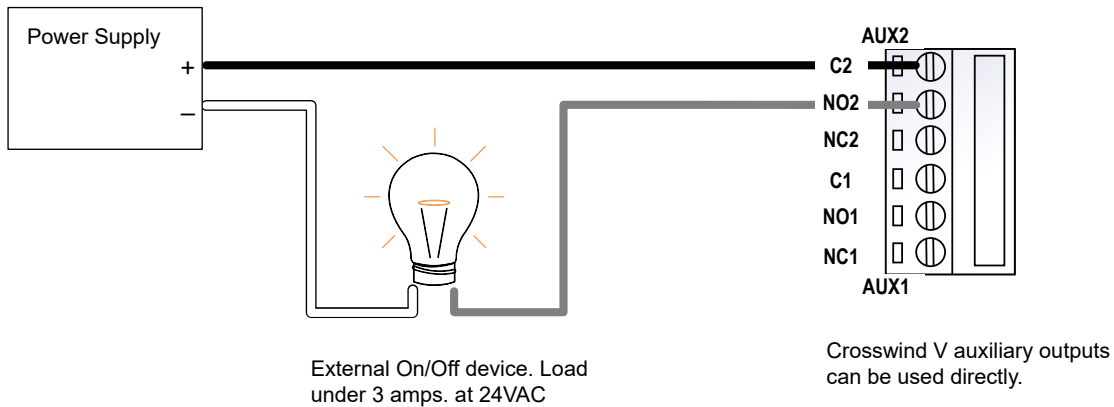

Figure 152. Applications Under 3 Amps
3. Connect the wires coming from the power source and the external device, following these guidelines. See Figure 152 for further clarification.